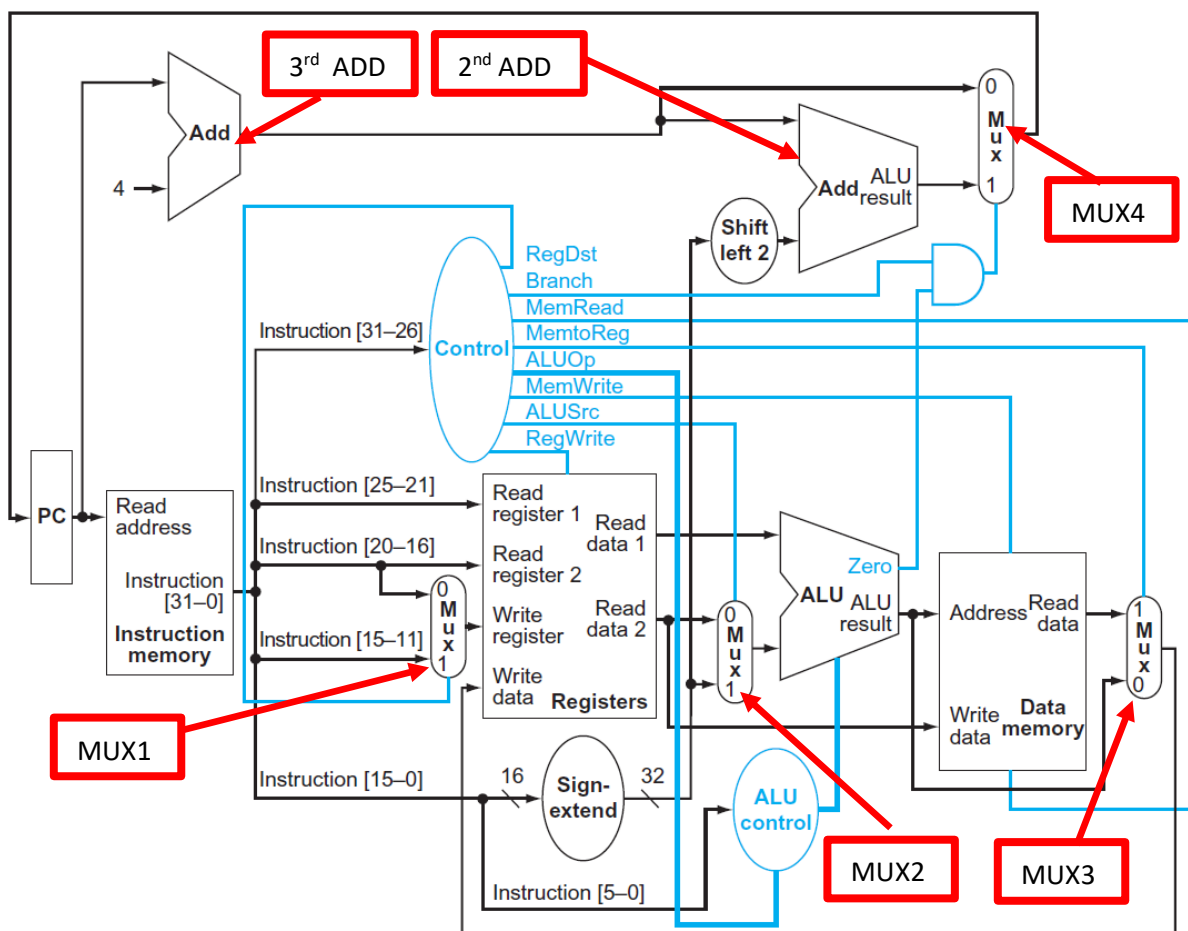

Figure 1. Single Cycle Processor (Required to get full credit)
3. Combine all the phases of the project for single cycle implementation (Figure 1).